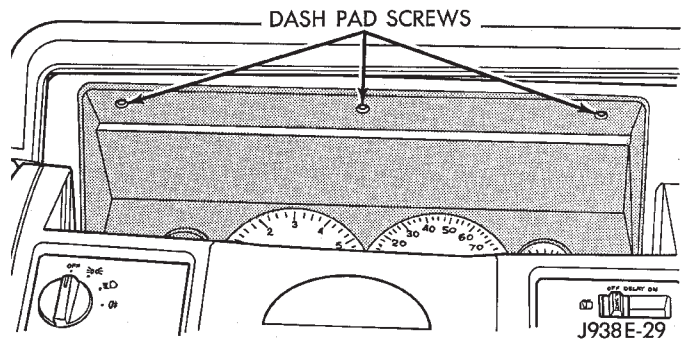

Fig. 3 Remove Screws Holding Dash Pad
- (9) Remove 3 screws above instrument panel cluster holding dash pad (Fig. 3).